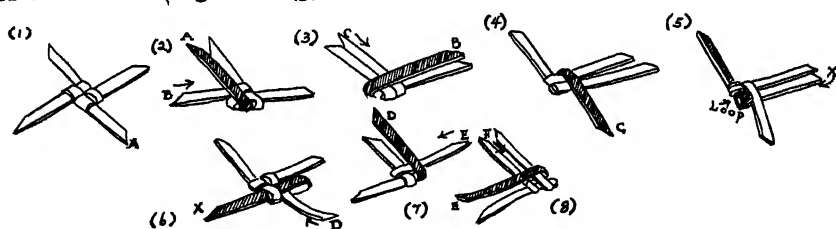

Fig. 18—Lanyard
After completing the desired length, separate the thongs for formation of the crown. (Fig. 18-B (3)).